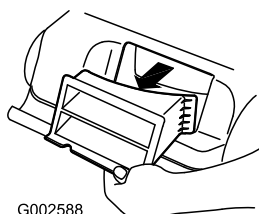

Figure 26
2. Remove the rear discharge plug (Figure 26).